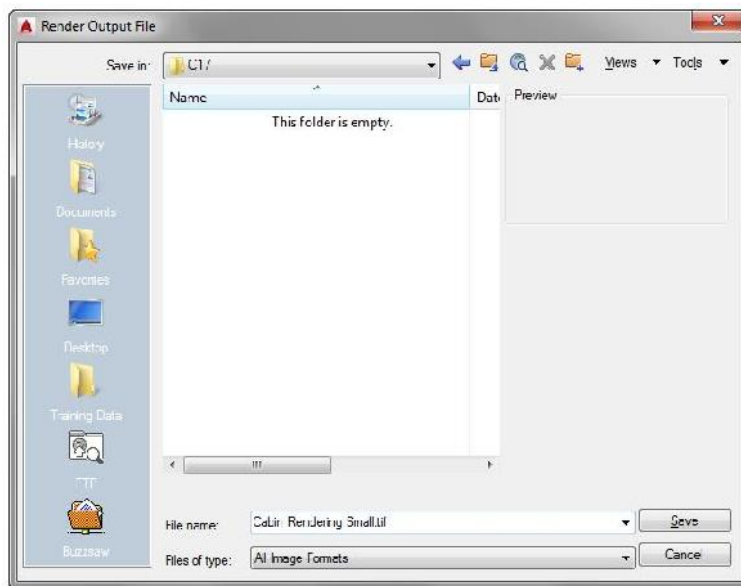

FIGURE 17.33: Saving the final cabin rendering
- b. Name the file **Cabin Rendering Small.tif** (see Figure 17.33).